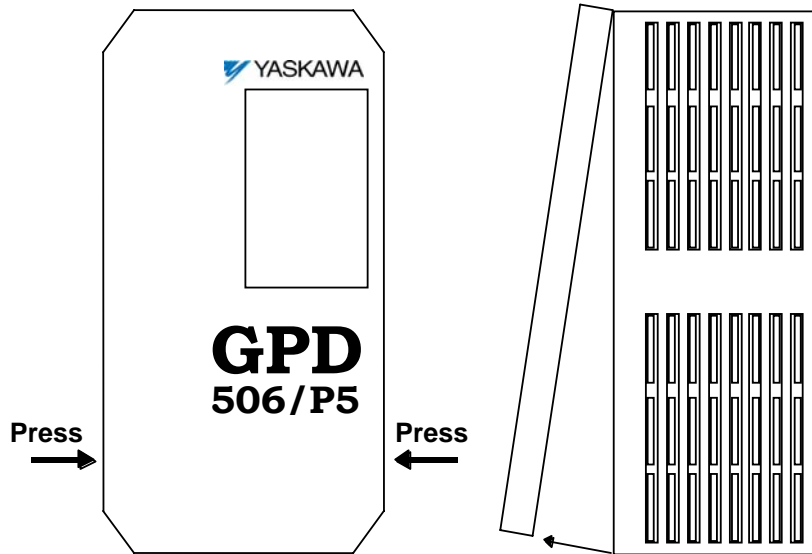

Figure 3. Cover Removal
Step 2. Remove the drive cover, applying pressure to the locking tabs on either side of the cover as illustrated in Figure 3. With the locking tabs disengaged, pivot the cover out from the bottom. Continue pivoting it until the top hinge disengages.